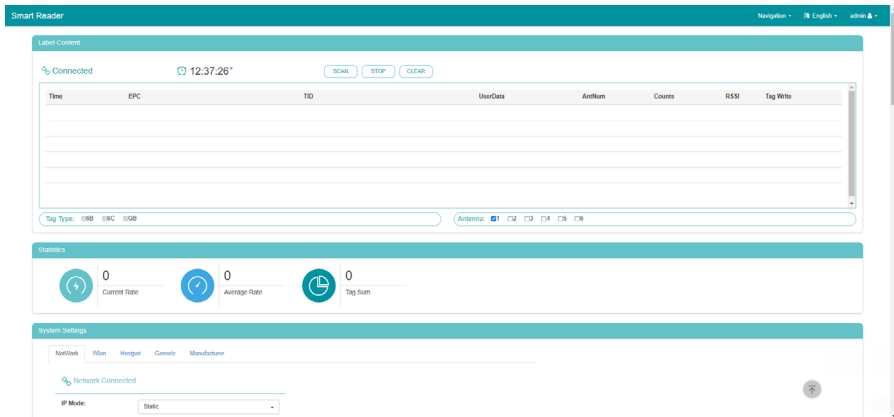

Figure 6.2 Web Interface
Step 2: Enter “user” and “password (123456)” to log into the reader operation interface, as shown in Figure 6.2 below.